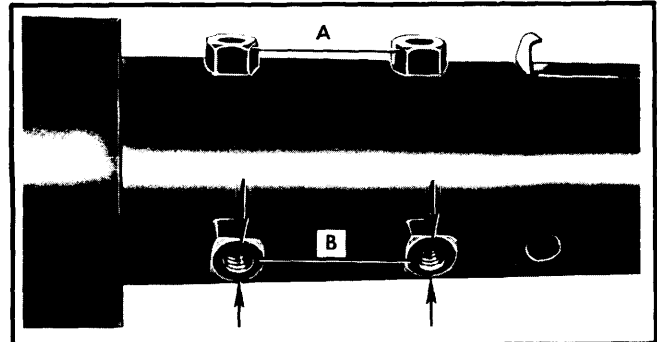

Fig. 3 Correct Installation of Steering Column in Vise
**Disassembly** — 1) Remove four dash panel bracket-to-column screws and lay bracket in safe place to prevent damage to mounting capsules. Place column in a vise using both weld nuts of set "A" or "B". **CAUTION** — Do not place column in vise by clamping onto only one nut or by clamping onto sides of nut not indicated by arrows in Fig. 3.
**Disassembly** - 1) Remove four dash panel bracket-to-column screws and lay bracket in safe place to prevent damage to mounting capsules. Place column in a vise using both weld nuts of set "A" and "B" as shown in Fig. 3.